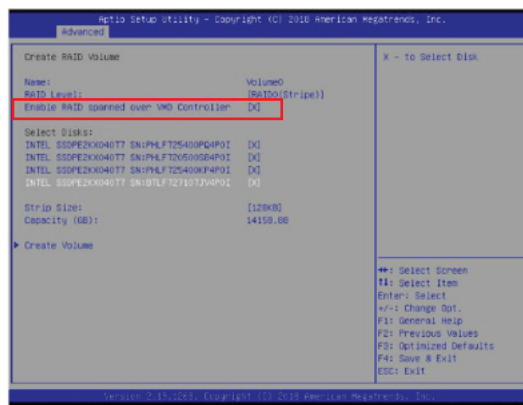

Figure C-4. Created Volume *with* enabling RAID spanned over VMD controller
11. If cross-controller RAID is required, select **Enable RAID spanned over VMD Controller** as shown in Figure C-4.